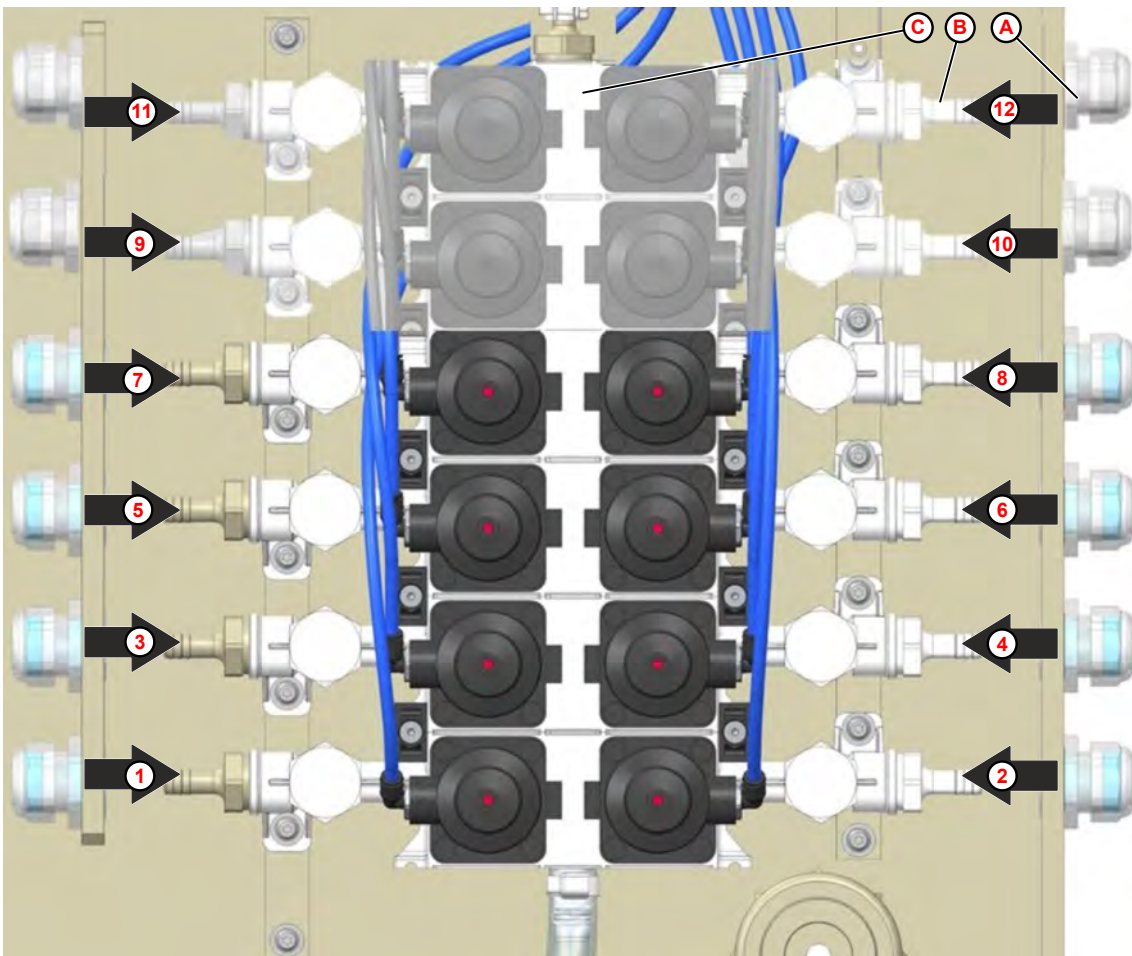

Fig. 6: Product assignment
1. ➤ Guide the hoses of the product suction pipes through the strain relief screw connections (Fig. 6 , item A).
2. ➤ Connect the hoses to the corresponding hose nipples (Fig. 6 , item B) of the valve block (Fig. 6 , item C) using the hose clamps supplied.